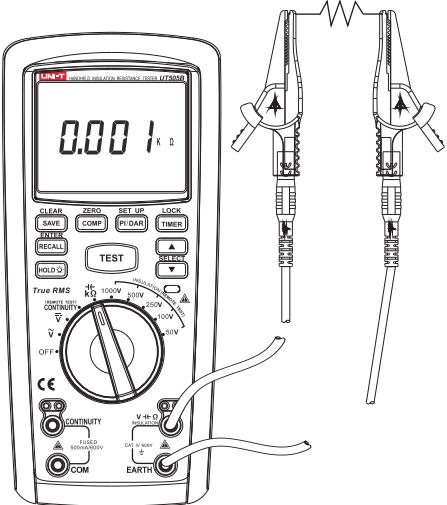

Figure 7
4. Measuring of Resistance/Capacitance**4.1 Measuring of Resistance (See Figure 7)**
- ① Insert the red probe into "V" jack (red jack), and black one into "EARTH" jack (black jack).
- ② Rotate dial switch to "KΩ/ $\frac{1}{4}L$ " tap position and connect the probe to two ends of tested resistance in parallel.
- ③ Read current measuring value of resistance from the display.
- ④ In measuring, if intending to save measured resistance, press the key of "SAVE/CLEAR" for saving.